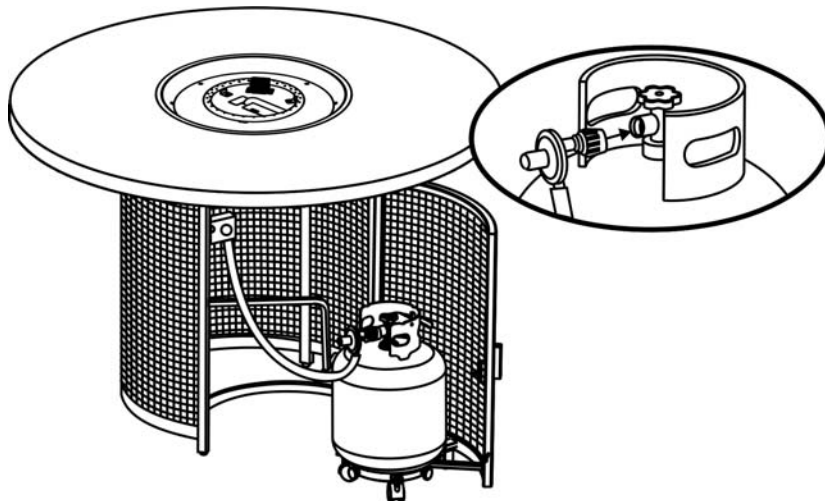

Figure 6
5. Slide the tank drawer out and place the LP tank in the drawer. Connect the regulator as shown in Figure 6. Turn the black handle clockwise to tighten. Turn the handle counterclockwise to remove. The hose must point down. Check that the valve is turned all the way clockwise to the "OFF" position. Open the tank valve. Apply a solution of soapy water to the tank-regulator connection and to the valve-hose connection to check for leaks. If soap bubbles continue to form, the connection has a leak. If a leak is found, close the tank valve and tighten all connections.